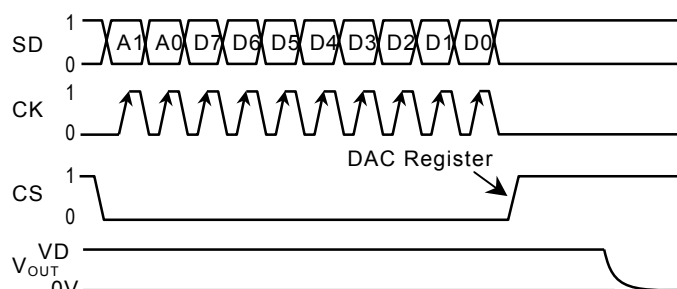
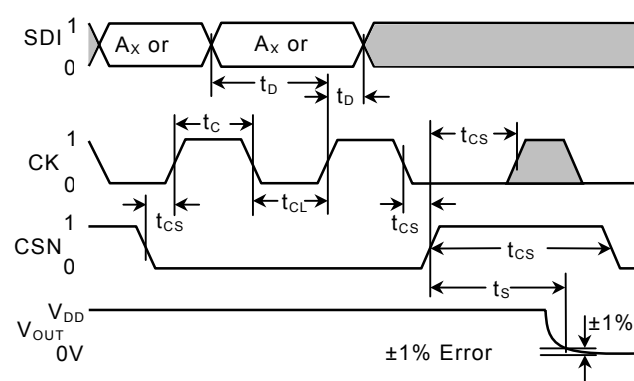

Figure 2: Timing Diagram
Figure 3: Detailed Timing Diagram
Programming of the AS150x is done via the 3 wire serial interface. The three input signals are serial data input (SDI), clock (CK) and chip select (CS). A programming sequence consists of 10-bit, where the last eight bit contain the code word for the resistor value. The first two bits A1 and A0 have to be low (see Table ). The data is shifted into the internal 10 Bit register with the rising edge of the CK signal. With the rising edge of the CSN signal the data becomes valid and the resistance is updated (see figure 2). A detailed block diagram is shown in figure 3.